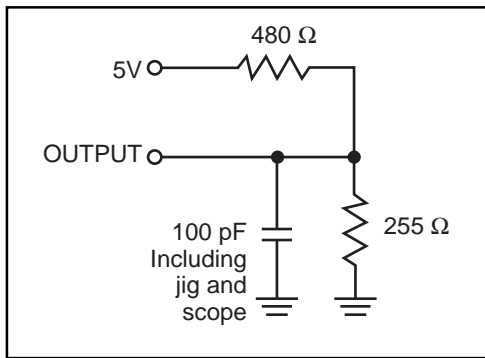

Figure 1a.
- Test conditions assume signal transition times of 5 ns or less, timing reference levels of 1.5V, input pulse levels of 0 to 3.0V and output loading specified in Figure 1a.
| Output Load | See Figures 1a and 1b |
1. Test conditions assume signal transition times of 5 ns or less, timing reference levels of 1.5V, input pulse levels of 0 to 3.0V and output loading specified in Figure 1a.